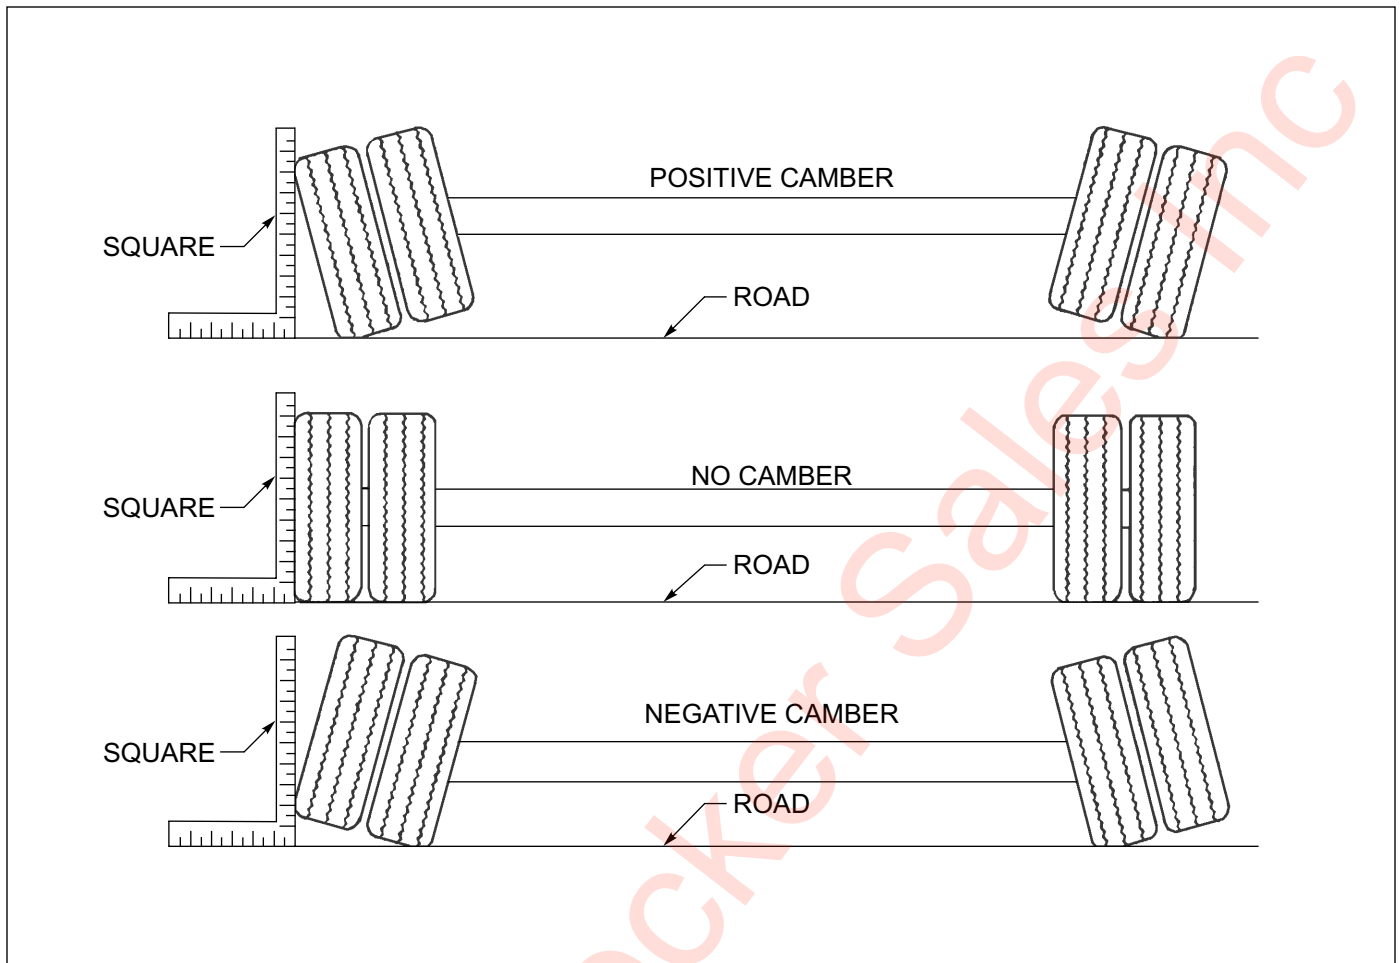

Figure 4-7: Examples of Camber
4. Follow the same procedures as in steps 2 and 3, except place the axle gauge above and below the axle. If gauge point gap is found, the axle has positive or negative camber. The trailer axle has no camber from the factory. If it is found to have positive or negative camber, axle replacement is necessary for examples of camber (See Figure 4-7.)